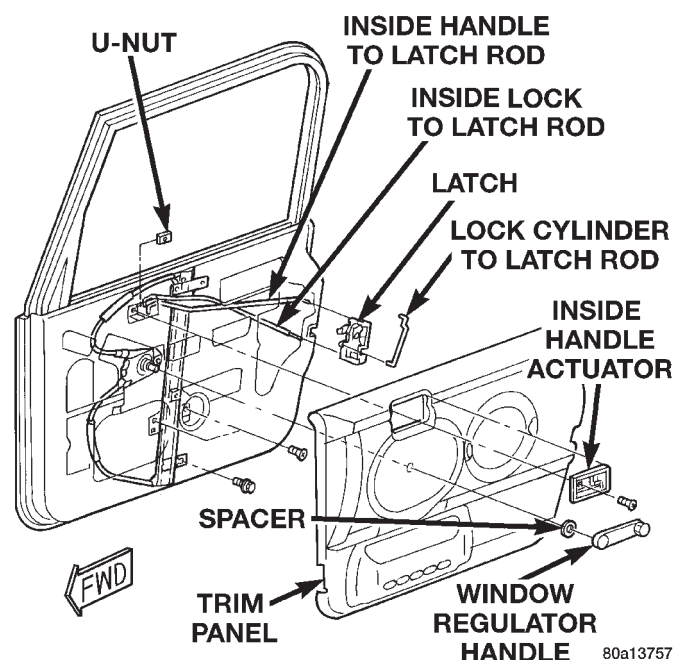

Fig. 22 Latch Rods
- (4) Peel back the waterdam from the door inner panel to access the door latch.
- (5) Disconnect from the latch, the inside lock knob to latch rod and, the outside release handle to latch rod (Fig. 22).